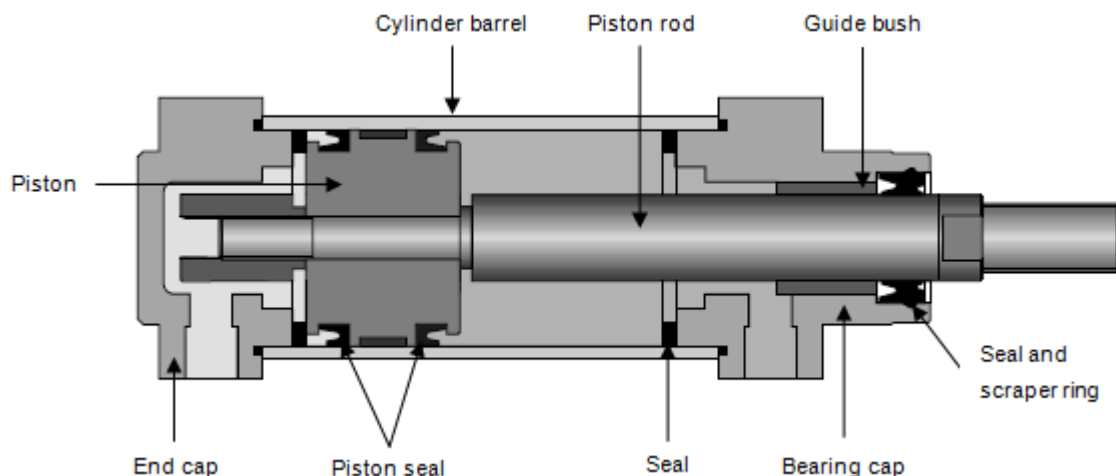

FIG 1.
- B. The double acting cylinder consist of the following components: (Fig 1)